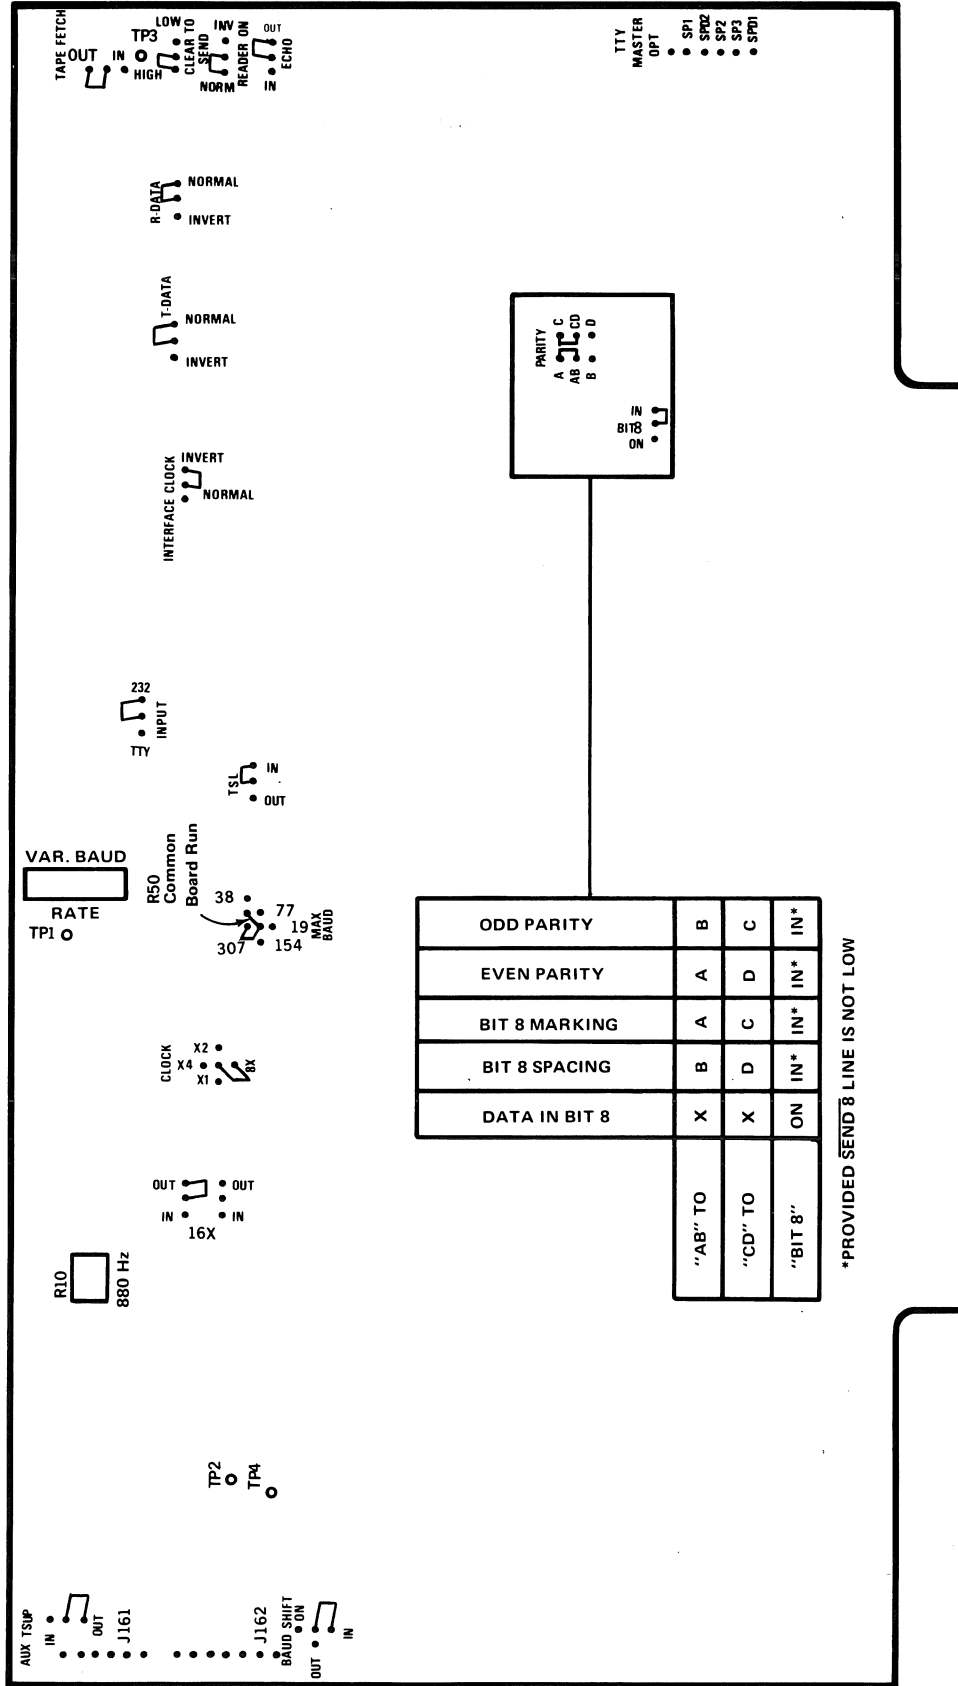

Fig. 1-2. TTY Port Strap Options.
- a. Install all straps on the Control Card as shown in Fig. 1-2.